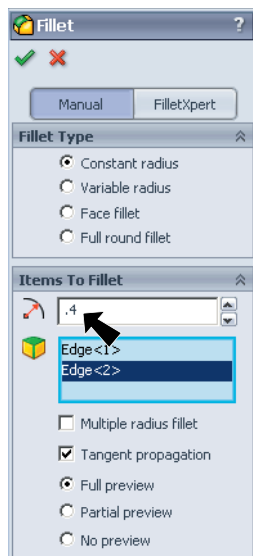

Fig. 6
Step 2. Set the **Radius**  to **.4** in the Fillet Property Manager, **Fig. 6**.